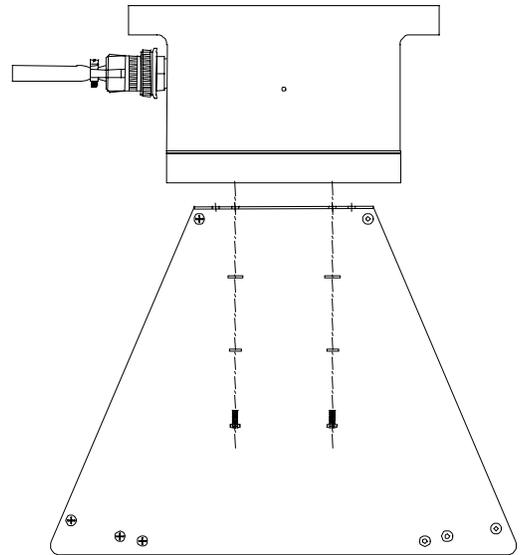

Figure G.5-11: Horn Blinder Screw Assembly on Model 10XR-UT ULTRA-TOUGH™ Receiver
- 4) Assemble the screws with a lock washer first and the flat washer second {Figure G.5-11 next page}.
- 5) Insert the four mounting screws into the bezel and finger tighten {Figure G.5-11}.